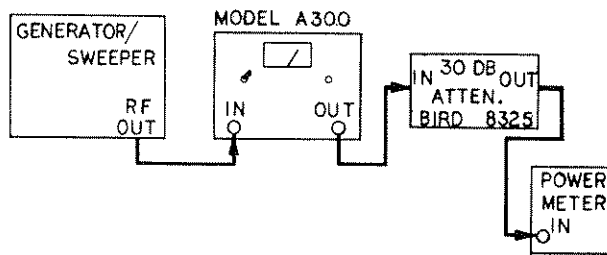

Figure 5-2. RF Output Power Test Set-Up
- a. Set-up the test equipment as shown in figure 5-2.
- a. Set-up the test equipment as shown in figure 5-2 for RF power output test.
- b. Using the set-up in Figure 5-2, measure and record the output power of the A300.
- Set-up the test equipment as shown in Figure 5-2.